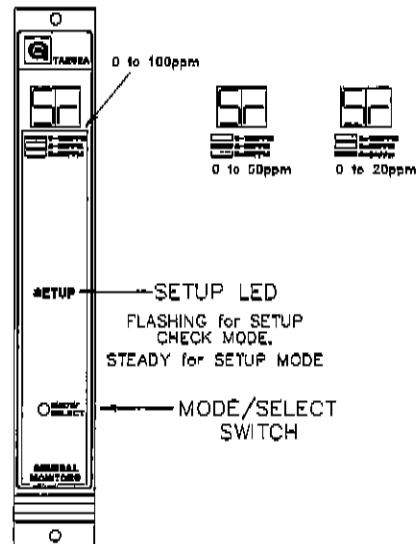

Figure 16
- Next, the user will select the Sensor Range for the display (figure 16). The display will indicate **Sr**, and the 0-20PPM, 0-50PPM or 0-100PPM LED will be illuminated. Press the Mode/Select Switch until the desired Sensor Range LED is illuminated. The factory default for this selection is 0-100PPM.
- After the Sensor Range option has been selected, the **A2** LED on the front panel will be flashing while the Energized/De-Energized option is displayed (figure 16). The display will indicate the current selection, (**En** or **dE**). De-Energized is the factory default for this selection.